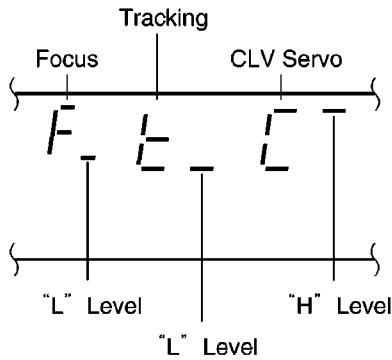

Fig. 7-2.
5. The display shows servo system status. Refer to Fig. 7-2. and Table 7-2.